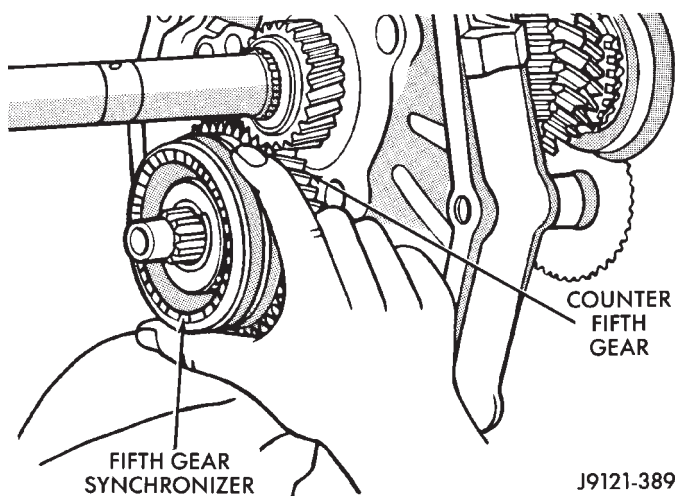

Fig. 63 Fifth Gear And Synchronizer Installation (AX 5)
(26) On AX 5, install assembled gear and synchronizer on counter shaft (Fig. 63).